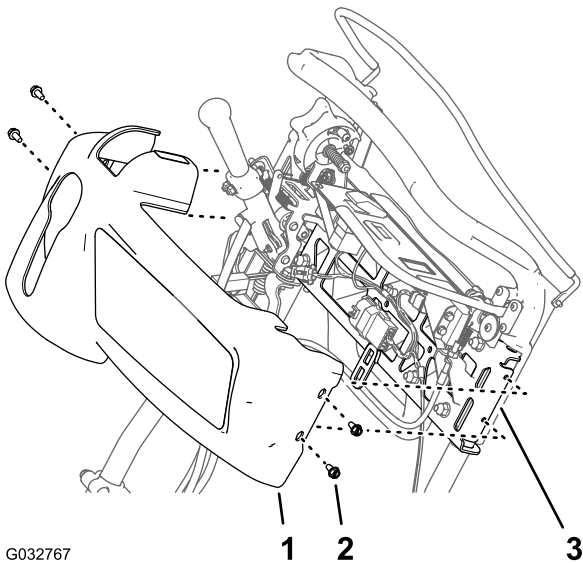

Figure 3
1. Remove the 4 flange-head screws (1/4 x 1/2 inch) that secure the control-panel cover to the support bracket of the handle bar (Figure 3).
2. Move the control-panel cover up and forward from the control panel, and remove the cover from the machine (Figure 3).